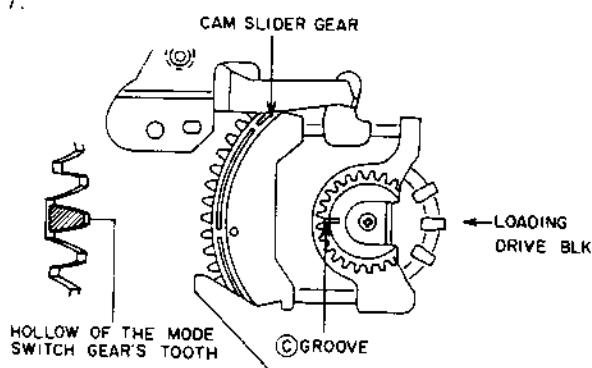

Fig. 4-17
- 2) Attach the MODE SELECT SWITCH to the LOADING DRIVE BLK. At this time, align the hollow of the gear's tooth (reverse side of the © mark) with the © groove of the CAM SLIDER GEAR as shown in Fig.4-17.